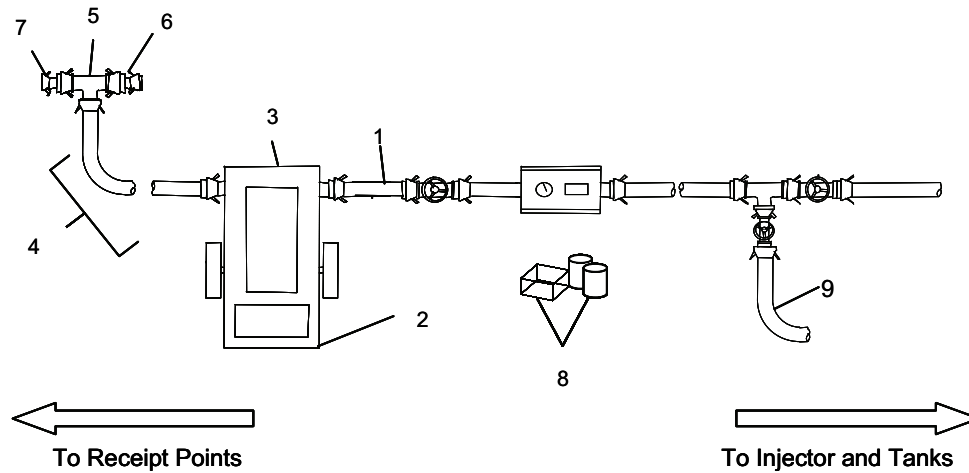

Figure 7. Installation of 600 GPM Pumping Assembly.
3. Position the spill containment berm (Figure 7, Item 2) adjacent to the end of the two sections of 6 in. x 10 ft. discharge hose (Figure 7, Item 1).
4. Position the 600 GPM pumping assembly (Figure 7, Item 3) in the spill containment berm (Figure 7, Item 2). Place chalk, wheel-track to secure tires. Engage brake system.
6. Place one Spill Control Kit and two drums (Figure 7, Item 8) found in TRICON container 2 and center between 600 GPM pumping assembly (Figure 7, Item 3) and injector assembly 4 in. x 25 ft. discharge hose (Figure 7, Item 9).
7. Connect the sections of 6 in. x 10 ft. discharge hose (Figure 7 Item 1) to the 600 GPM pumping assembly (Figure 7, Item 3).
9. Connect the two sections of 6 in. x 10 ft. suction hose (Figure 7, Item 4) to the suction port of the 600 GPM pumping assembly (Figure 7, Item 3).
11. Connect the 6F x 6F x 6M tee valve assembly (Figure 7, Item 5) to the end of the 6 in. x 10 ft. suction hose (Figure 7, Item 4).
13. Connect the two 4F x 6M adapters (Figure 7, Items 6 and 7) to the 6F x 6M x 6F tee valve (Figure 7, Item 5).